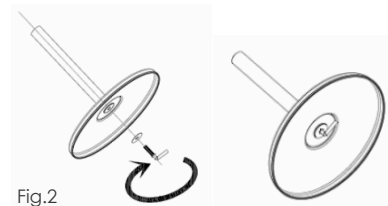

Fig.2
2. Insert the lower tube into the base plate, position the washer and secure the lower tube to the base plate with the base retention screw by turning in clockwise direction until hand tight as shown in. (Fig.2)